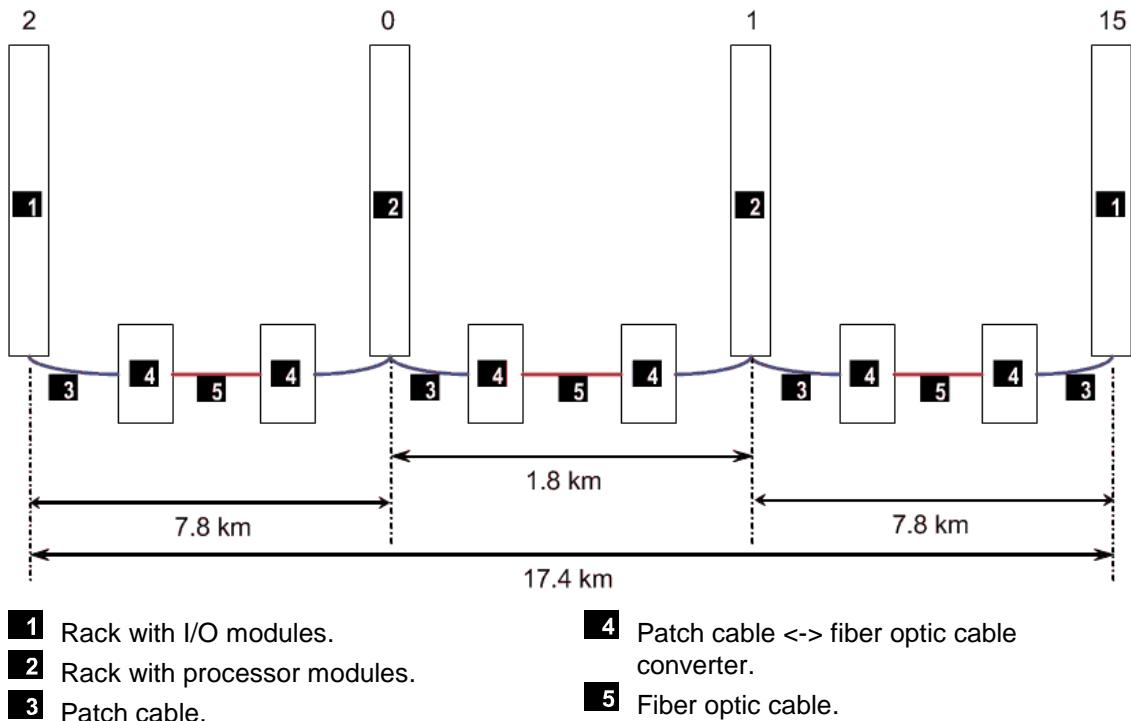

Figure 6: Maximum Distance between Processor Modules with Latency Default Value
If the processor modules are distributed among rack 0 and rack 1, these racks can be positioned at a distance from each other and interconnected using fiber optic cables (Figure 6).
- The delay on the distance between the two racks with processor modules (rack ID 0 and rack ID 1), see Figure 6.